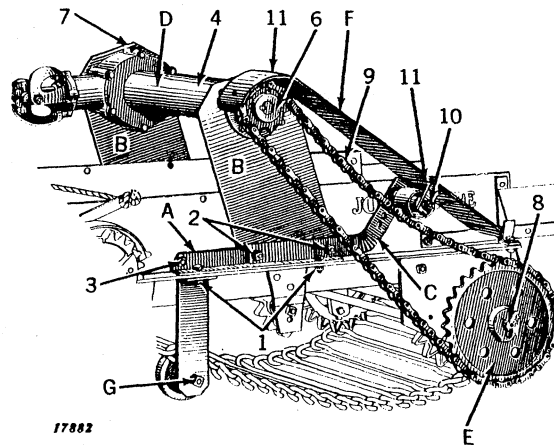
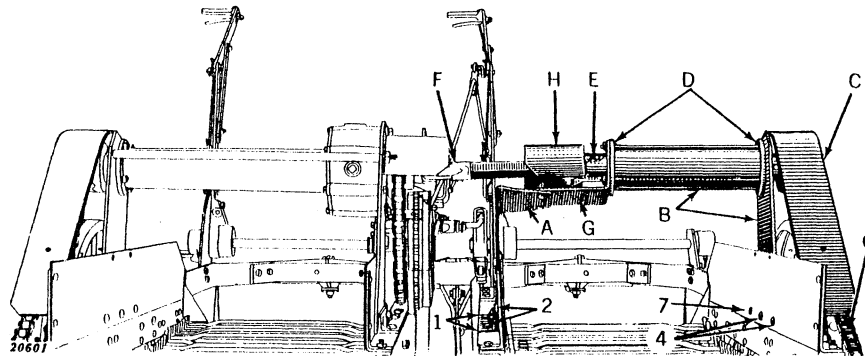

Figure 17
Figure 20
1. (Figure 17) Bolt support angles "A" and return idler support "G" to both frames.
2. (Figure 17) Bolt left- and right-hand support plates "B" to the rear holes in the support angles "A." Plates "B" should be between the vine shields and support angles "A." Idler arm "C" is fastened to the left-hand support angle as shown.
3. (Figure 17) Bolt vine shield to support angles "A" using the two spacing washers (found on
4. (Figure 17) Install the guard tube "D" between the gear case and the tube bearing on the left-hand support plate.
5. (Figure 17) Attach the spreader pipe with the long bolt behind the guard tube "D" and between the support plates "B."
6. (Figure 17) Slide washer (found in bag) onto the jackshaft. Then slide the jackshaft through the left-hand support plate bearing, through the guard tube "D" and then through the gear case assembly.
7. (Figure 17) On the right side, line up the keyways in the jackshaft and gear case sleeve and insert the LONG key so that it does not protrude beyond the outer face of the gear case bearing. Then slide other washer (found in bag) on right-hand end of jackshaft. Next fasten collar with set screw on right-hand end of jackshaft.
8. (Figure 17) Attach drive sprocket "E" with square key and cotter pin to the left-hand end of the main elevator drive shaft with long hub to the outside.
9. (Figure 17) Attach drive chain.
10. (Figure 17) Attach idler in slot and take up slack in drive chain.
11. (Figure 17) Attach chain guard "F."
1. (Figure 20) Bolt the support angles to the frame in the same manner as on the left-hand Power Drive as shown in No. 1, Figure 17, page 18.
2. (Figure 20) Bolt the support plate "A" loosely in the two rear holes of the upright section of the angle supports.
3. (Figure 20) With the support plate and tubing assembly "B" on the floor, slide the right-hand jackshaft "C" through the bearing "D" and tubing assembly "B" and attach the universal joint "E" with set screw and key (found in bag) to the left-hand end of the jackshaft. Washers should be on each end of the jackshaft next to the bearings.
4. (Figure 20) Mount the above assembly (No. 3) in the two rear holes of right-hand support angles. Slip the square shaft "F" into the universal joint while mounting. Remove square head set screw from universal joint "E" to permit universal joint to float on square shaft "F."
5. (Figure 20) Bolt plate "G" to plate "A" and attach guard "H" to the front plate bolt.
6. (Figure 20) Attach drive sprockets, chains, guards, and idlers as shown in Figure 17, page 18.
7. (Figure 20) Finish bolting of the vine shields as per No. 3, Figure 17, page 18.